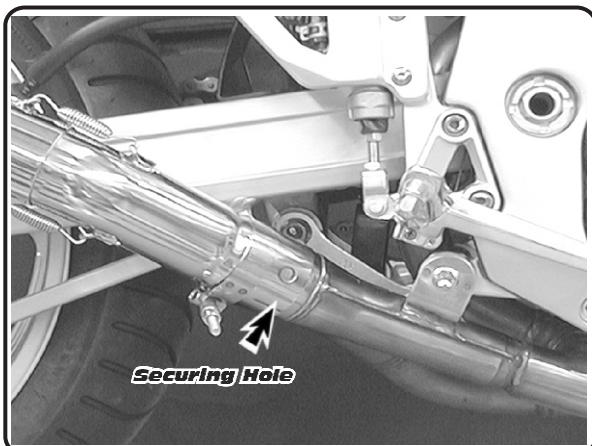

Fig. 7
- 6 Install supplied collector clamp over Slip-on mid-pipe with bolt to the inside and facing down. Install slip-on over cut portion of stock system. Ensure mid-pipe is fully seated on stock pipe.(See Fig. 7) Do not tighten clamp.
- 9 Drill 13/64" hole in stock header and in the center of the hole on the mid-pipe (See Fig 7). Install supplied collector rivet so the head of the rivet is flush on the mid-pipe. Center collector clamp over rivet and torque clamp nut to 2.0 kg-m (14.5 lb-ft).
- 11 Check for proper clearance between new exhaust system and motorcycle. (i.e. radiator, oil pan, swing-arm, etc.) If any problem is found, please carefully follow through the installation steps again. If problem still persists, please call the Yoshimura technical department at (800)634-9166, in CA (909)628-4722